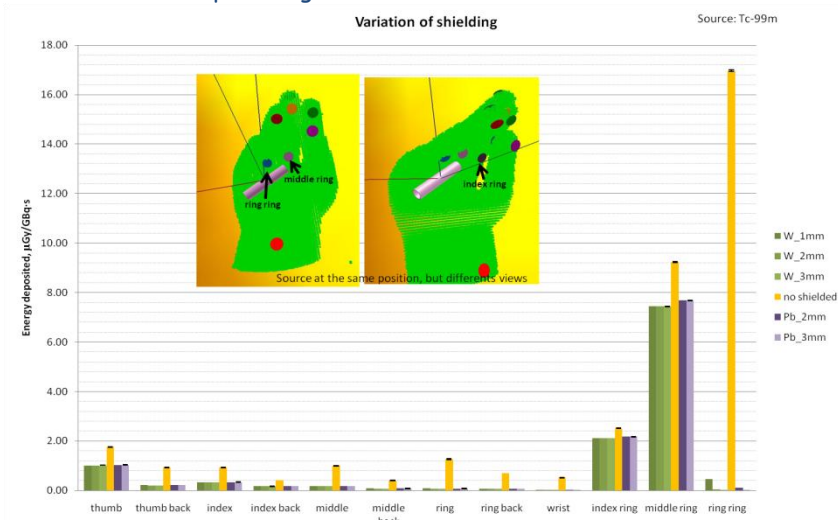

Figure 8: Example of scenario I2S. Source Tc99m
- Do one histogram for each radionuclide. Include the error bars and the figure that show position of shielding respect to each tally. See example in Figure 8